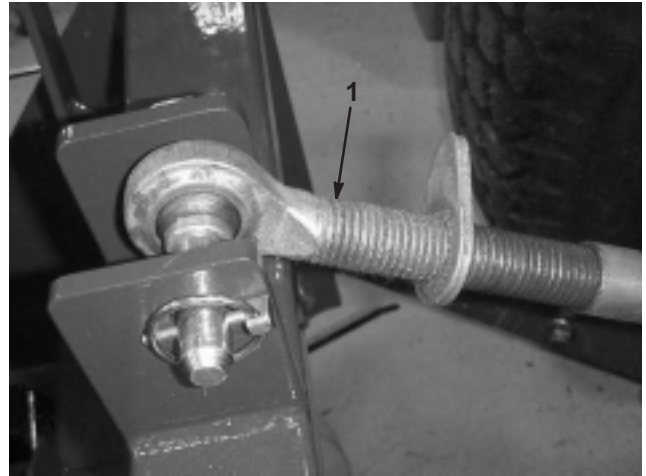

Figure 5
1. Connect the upper link to the holes in the blower bracket and secure it with a clevis pin and lynch pin (Fig. 5).